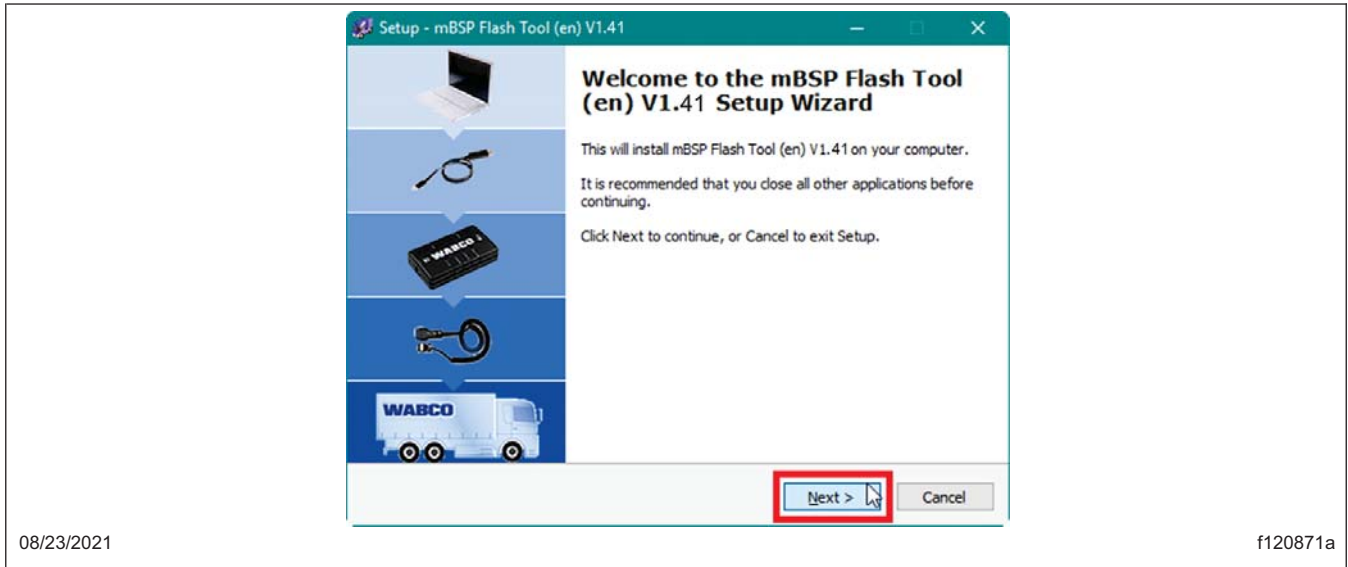

Fig. 11, Navigating the mBSP Flash Tool Setup Wizard
7.5 The window 'Welcome to the mBSP Flash Tool Setup Wizard' will appear. Select 'Next.' See Fig. 11.